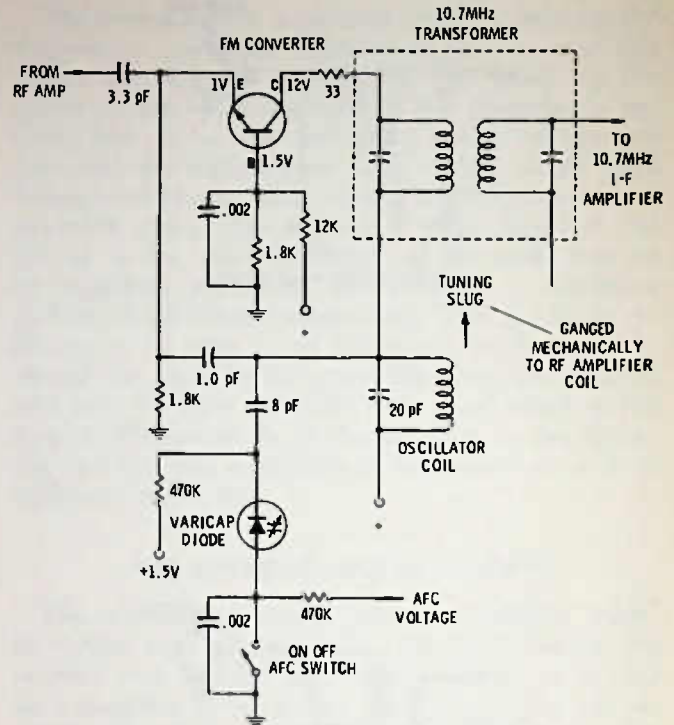
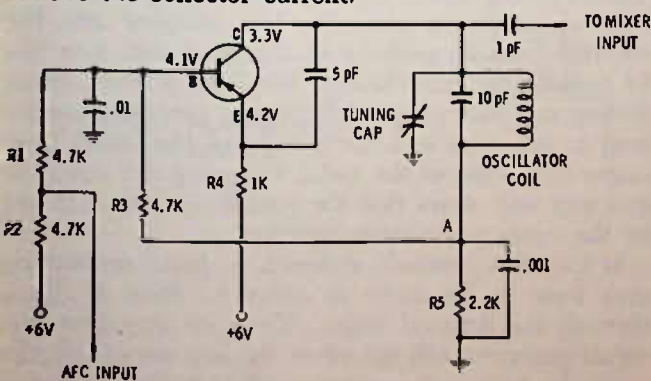

Fig. 13-4. Single transistor serving as both mixer and oscillator.
Fig. 13-5. Separate fm oscillator with afc.
The fm mixer and oscillator may use two transistors, one for each function, but many circuits use one transistor for both jobs. Fig. 13-4 is such a circuit. This is a "grounded-base" oscillator and mixer circuit. The signal from the rf stage is fed to the emitter through a 3.3-pF capacitor. The oscillator signal feedback is
Fig. 13-5 is a separate oscillator transistor. This is essentially the same oscillator circuit as in Fig. 13-4, with collector-to-emitter feedback. The base is grounded for signal by the .01- μ F capacitor. A "bias balancing" circuit (R3 and R5) helps to keep the transistor drawing appreciably the same amount of current. If the collector circuit starts to draw more current, less negative voltage (more positive) appears at point A, which in turn reduces the bias of the transistor, tending to reduce the collector current.
A little ingenuity is needed. The circuit of Fig. 13-4, for example, can be checked for base bias because the base is at ground so far as rf is concerned. If the base bias is about normal, then check the emitter voltage—the emitter circuit is "hot" so far as signal is concerned, but even if the oscillator is detuned, the transistor should still be drawing current because of the base bias. Also, if you use a vtm or solid-state vom that uses an isolation resistor at the probe tip, then you can measure this voltage without serious detuning of the oscillator.
In Fig. 13-5, an ideal place to check transistor current without upsetting the signal circuit is at point (A). A test probe with an isolation resistor can measure the voltage at the emitter without appreciable effect on the circuit. But even with considerable effect, the transistor must draw current and should indicate approximately the right voltage, perhaps a bit high, at any of the transistor elements.